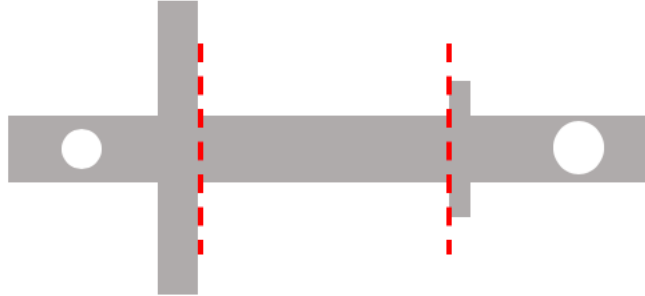

Figure 7. Trunnion cutting locations.
- 4-POM. The upper control arm removal follows a similar process, but the trunnion must be removed/modified for the procedure to work. First, cut the trunnion at the dashed lines as shown in Figure 7. Use caution to make sure you don't cut into the control arm. We found it easiest to cut the washer off of the front of the trunnion in pieces before cutting the main part of the trunnion off of the bushing.